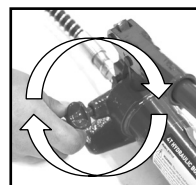

Fig.7
3. Close the release valve clockwise until tight (DO NOT over-tighten) (Fig 7).